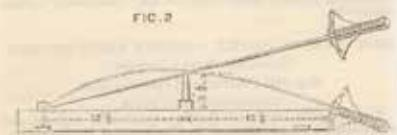

FIG. 2.—BRIDGE TEST FOR NAVAL 25-INCH SWORD.
(1) Both ends of the blade to be bent round a curved block (FIG. 2) so that every portion of the blade touches the base.
(2) The sword to be struck moderately on back and edges, on a block of oak.
(1) Both ends of the blade to be sprung over a bridge in the centre of the blade (FIG. 2).
(2) To be struck moderately on back and edges on a block of oak.
(1) Both ends of the blade to be bent round a curved block (FIG. 2).
(2) To be struck a moderate blow on both ends on a flat block of oak.